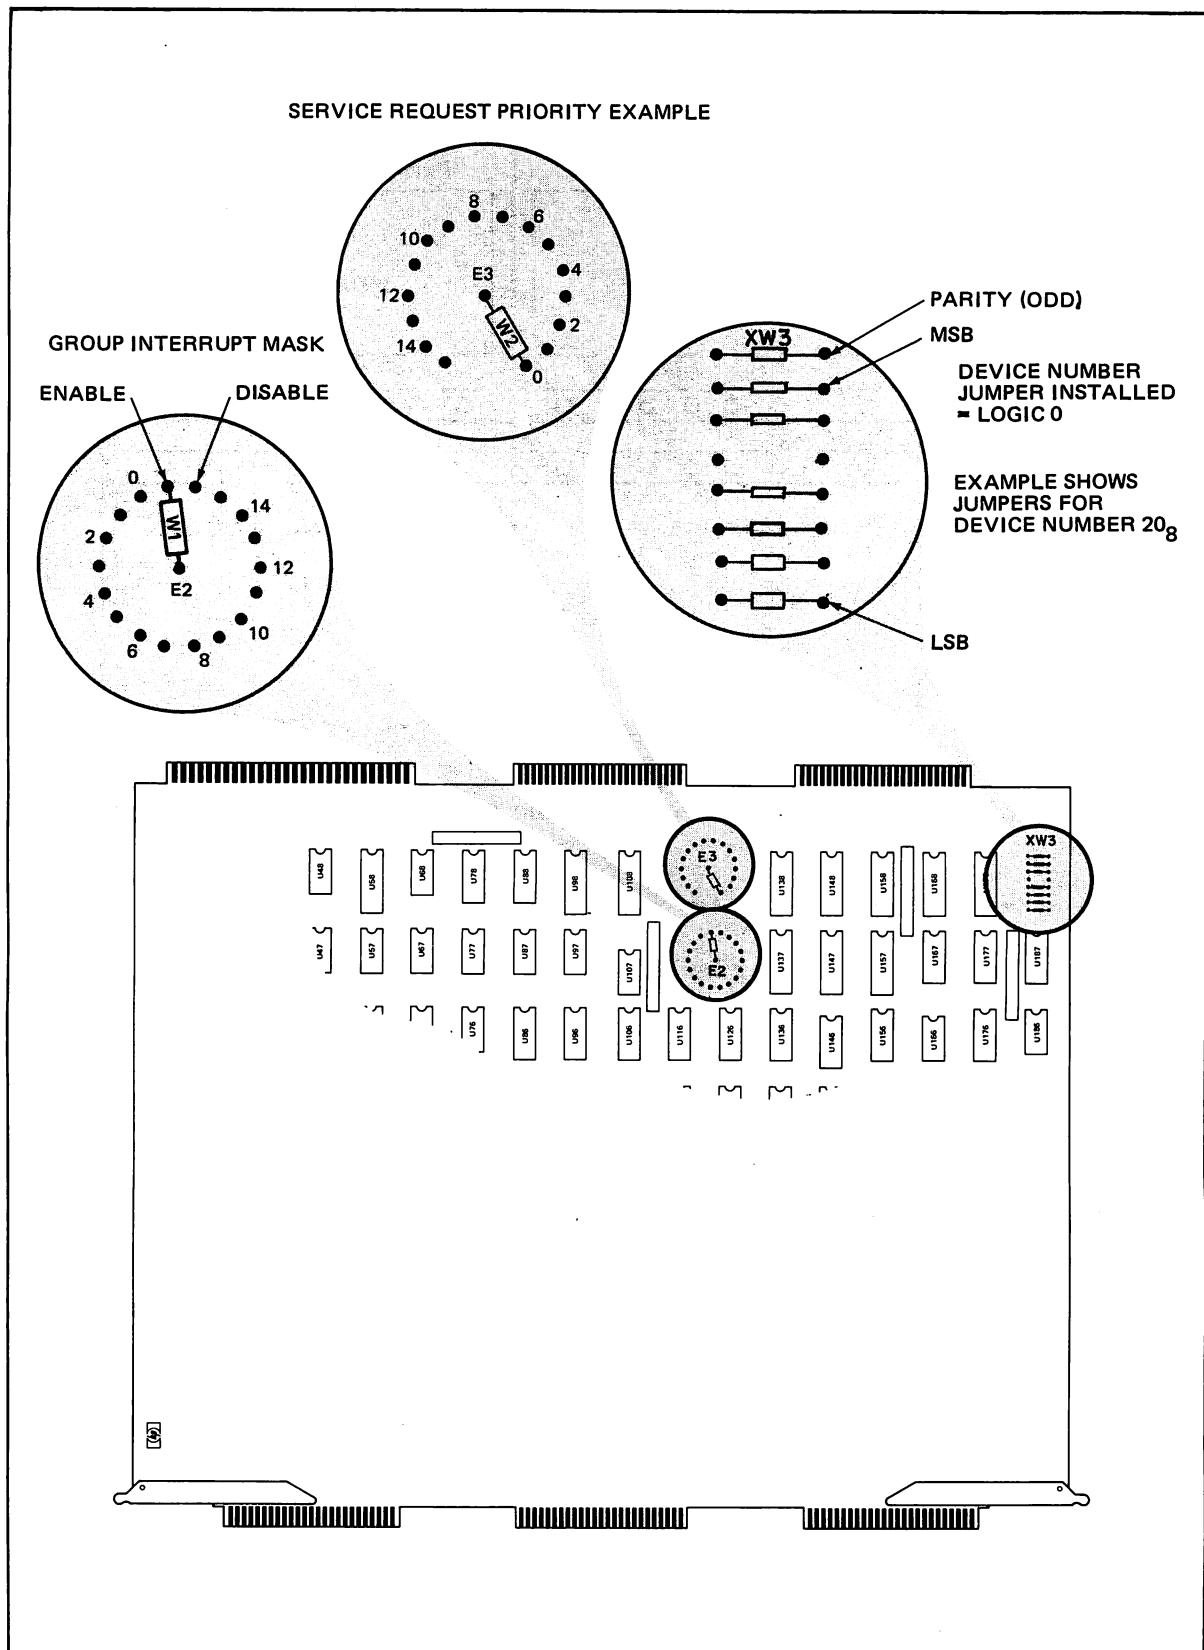

Figure 3-4. HSI PCA Jumper Locations
- a. Configure the HSI PCA jumpers shown in figure 3-4.
3. Configure the device number in socket XW3. The presence of a jumper signifies a logical '0'. In the example in figure 3-4, position 5 does not have a jumper (logical 1) and the device number is decimal 16 or octal 20.